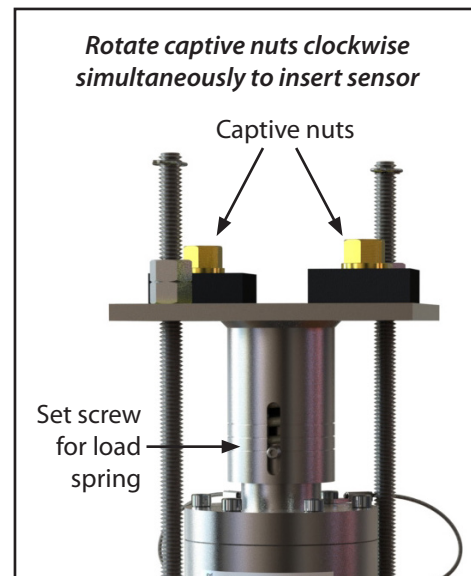

Figure 24. Captive Nuts
4. Rotate the two captive nuts (Figure 24) on the top plate clockwise simultaneously with the provided 9/16" ratchet wrenches. This will insert the sensor probe into the pipe.